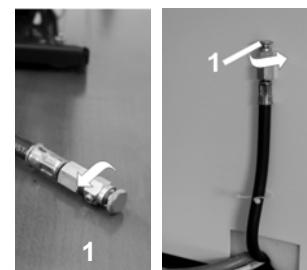

Fig.11
##### Compressors (Fig.11, Fig.12)
If the compressor will not be used for a prolonged time period, drain any condensate from the air tank. Then turn on the compressor for 10 minutes, keeping the drain valve open (1) (Fig.11, Fig.12). Switch off the compressor by switch (3) at pressure switch (2) (Fig.10), close the drain valve and disconnect the appliance from the mains.
- Release air pressure in the pressure tank by opening the drain valve (1) (Fig.11, Fig.12).